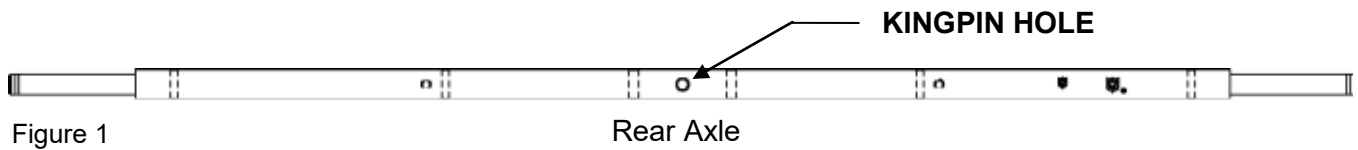

Figure 1
19. Install rear axle. See Figure 1 to determine which is the rear axle.